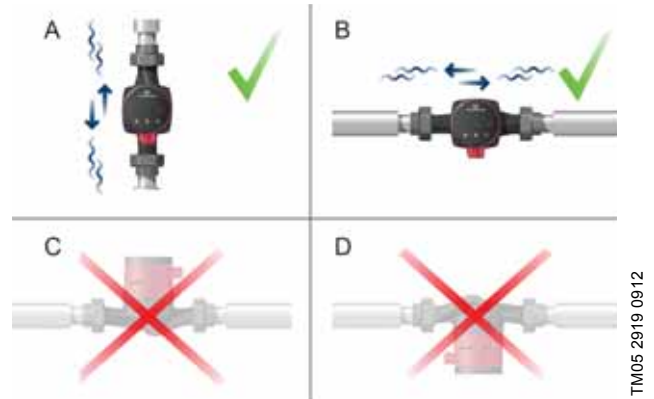

Fig. 2 Control box positions
- Pump installed correctly in a vertical pipe. See fig. 2, pos. A.
- Pump installed correctly in a horizontal pipe. See fig. 2, pos. B.
- Do not install the pump with a vertical motor shaft. See fig. 2, pos. C and D.